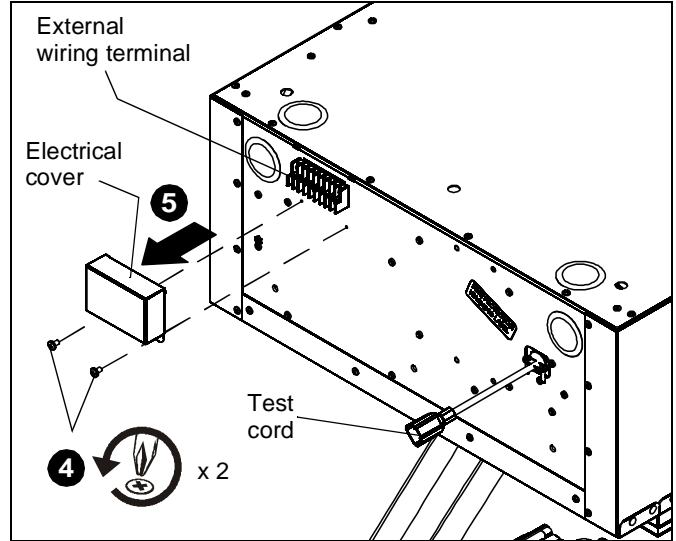
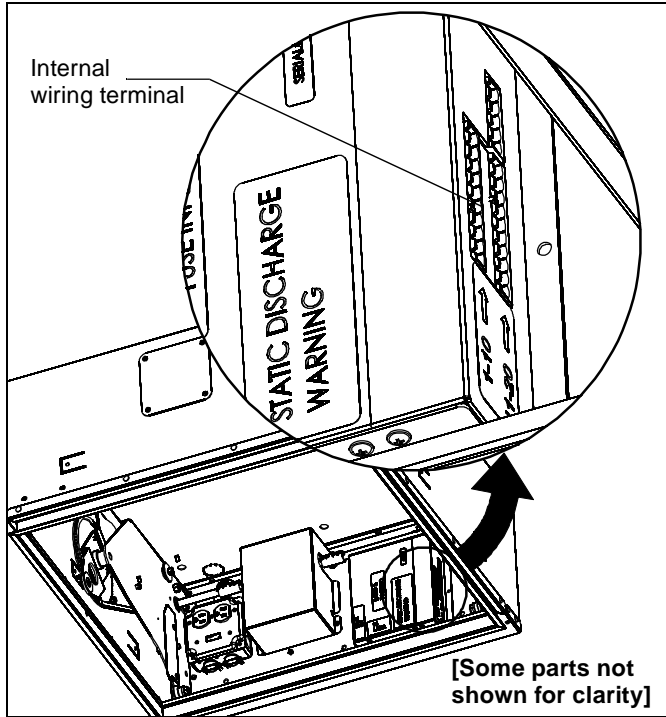

Figure 2
Figure 4
4. Remove and save two screws holding side electrical cover in place. (See Figure 2)
5. Remove electrical cover. (See Figure 2)
7. Plug the SL236i test inlet in using the supplied 6 ft. power cord (J). (See Figure 2)
**NOTE:** The supplied power cord (J) may not work in all countries, and the user may need to supply an appropriate cord for the country of use.
**NOTE:** (See Figure 2) for location of external wiring terminal. (See Figure 4) for location of internal wiring terminal.